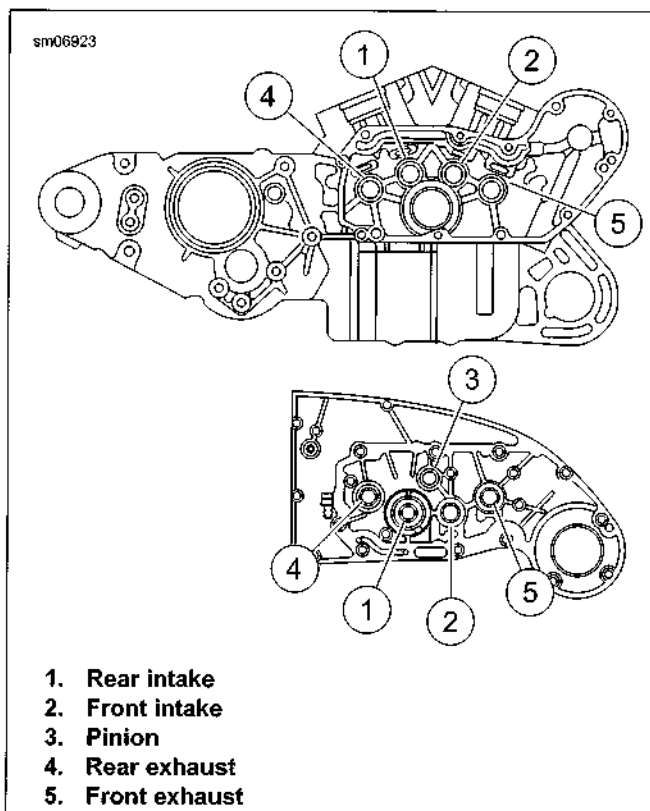

Figure 3-85. Cam and Pinion Bushings
- See Figure 3-85. Measure each bushing and its corresponding cam gear shaft or pinion gear shaft. Replace bushings that exceed service wear limits. Refer to Table 3-32.